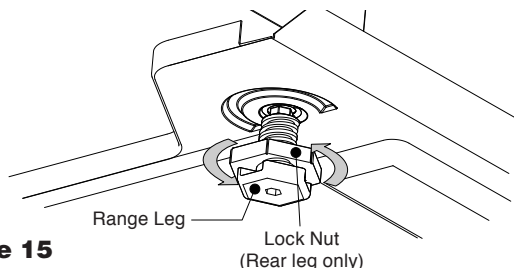

Figure 15
- Loosen legs and lock nuts to set level of the range. (Note that the lock nuts are only on the rear feet). See Figure 15.